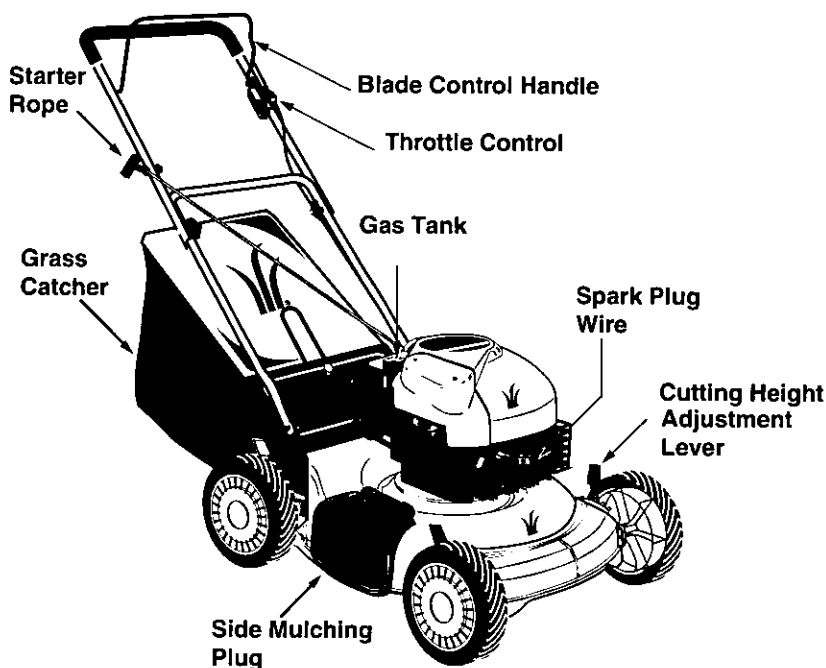

FIGURE 8
- To convert your mower from a mulcher to a rear bagger, remove side-discharge and lower the side mulching plug. For location of side mulching plug, see Figure 8.
Read this owner's manual and safety rules before operating your lawn mower. Compare the illustrations in Figure 8 with your lawn mower to familiarize yourself with the location of various controls and adjustments. Save this manual for future reference.